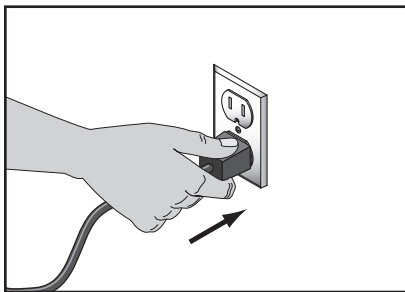

Figure 7. Connecting to power.
2. Insert the power cord plug into a matching power supply receptacle. The tool is now connected to the power source (see **Figure 7**).